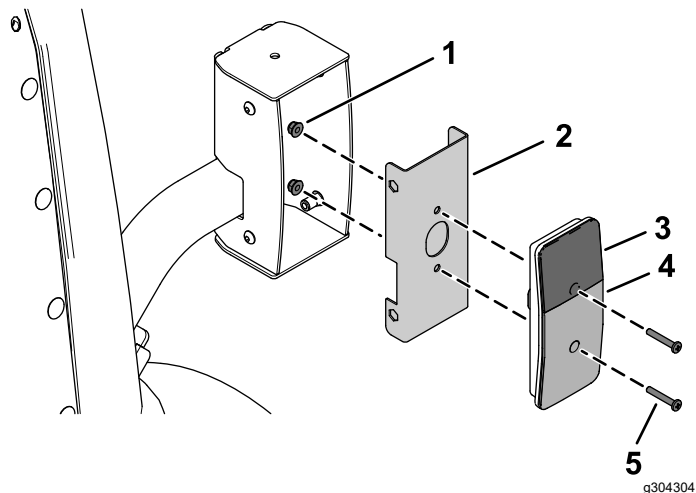
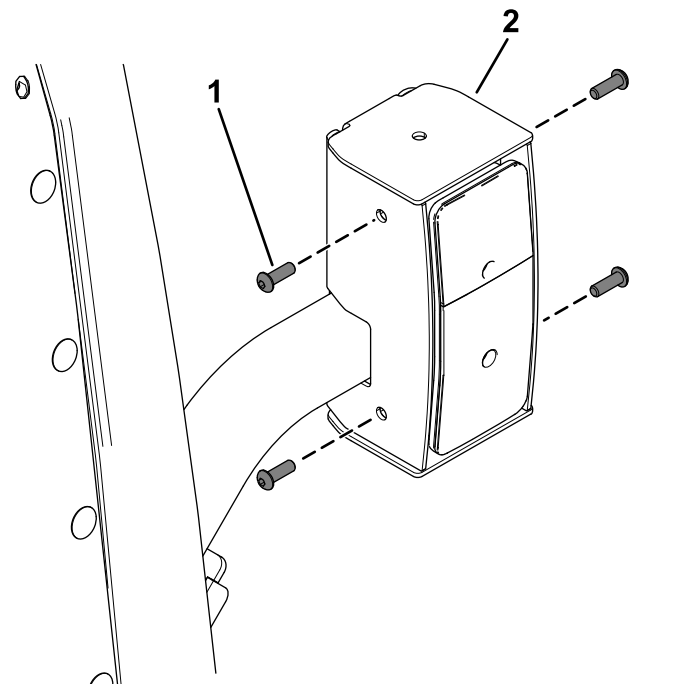

Figure 36
Figure 37
5. Secure the taillights to the inner mount assemblies using 4 pan-head screws (#10 x 1-1/4 inches) and 4 flange nuts (#10) as shown in Figure 36.
8. Secure the assembled taillights to the taillight housings using 8 button-head bolts (1/4 x 3/4 inch) as shown in Figure 37.
Ensure that you install the taillights with the yellow lens on top (Figure 36 and Figure 37).